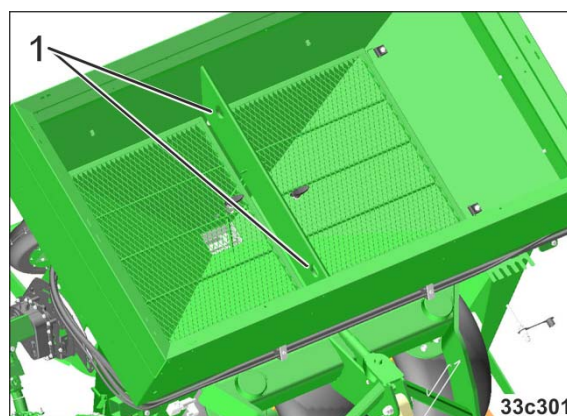

Fig. 4
- Secure the 2 crane hooks to the eyelets (Fig. 4/1) in the hopper